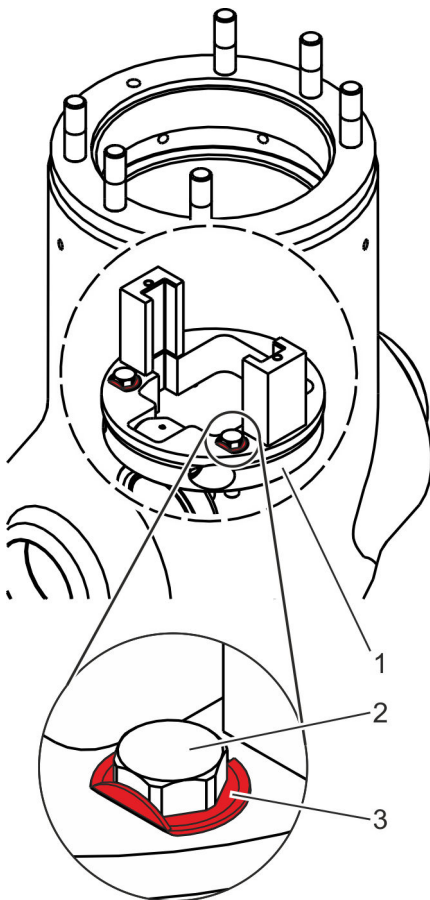

Fig. 54: Fastening the retaining ring
11. Loosely fasten the retaining ring (Fig. 54/1) with new washers and (Fig. 54/3) and screws (Fig. 54/2) in the body.
Tighten the screws (Fig. 54/2) with the prescribed tightening torque.
13. Bend the washers (Fig. 54/3) on one side.
⇒ The screws (Fig. 54/2) cannot become loose.